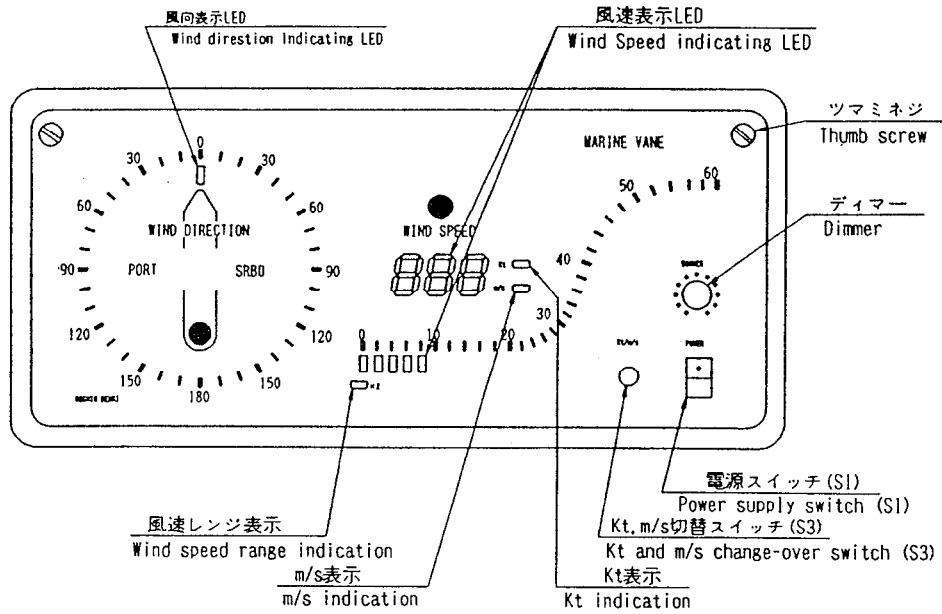

図1・1.Fig
1) Kt and m/s change-over switch (Refer to Fig.1 of S₃.)
The 7-segment LED indicates, as shown in Fig.1 value within the range of 0-60.0m/s or within the range of 0-120Kt according to the rotation of a wind direction & speed transmitter propeller.
Namely, when wind speed exceeds 60Kt, the LED "0" of $\times 2$ is lit as shown in Fig.1 and simultaneously, the number of cylindrically arranged LEDs to be lit decreases with the shifting of the range.